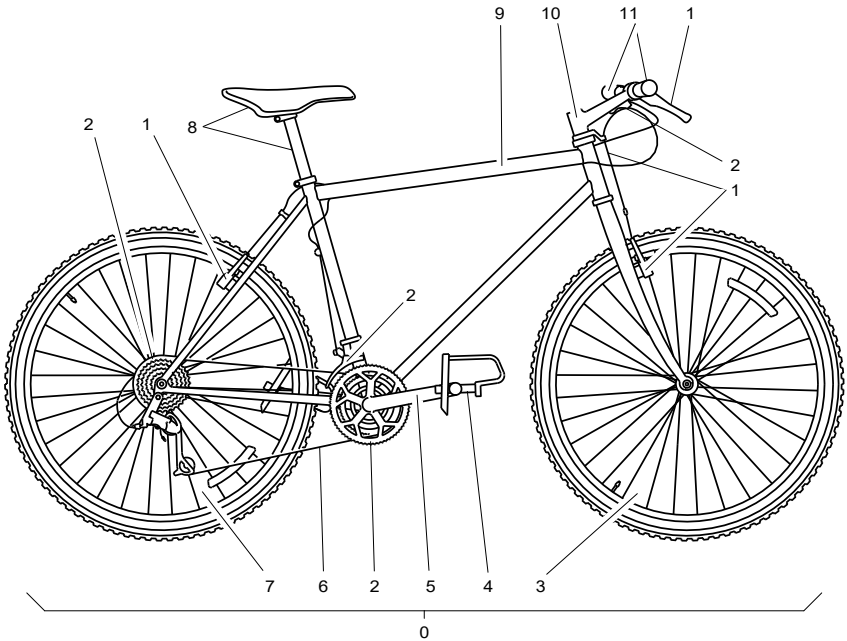

Figure 1 Complete bicycle
A bicycle (refer to Figure 1) is a frame and a number of movable components with mechanical parts that are completely open. There are no covers or sheet metal panels that prevent access to the mechanical parts. Thus, you can disassemble the different components of a bicycle (refer to Figure 1) to do:
- Rear wheel	Figure 1
- Front wheel	Figure 1